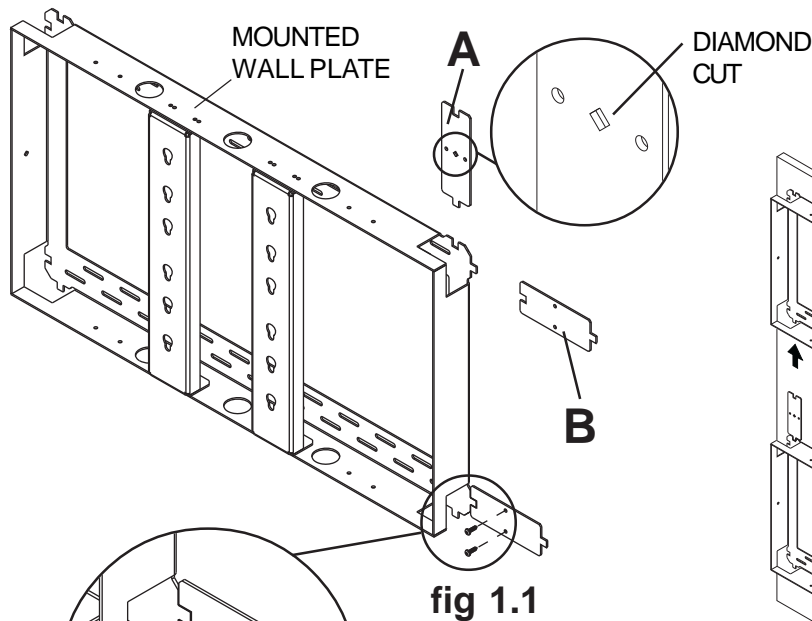

fig 1.1
- Slide spacers (**A** and **B**) into tab of mounted wall plate as shown in figure 1.1. Keeping spacers (**A** and **B**) flush up against wall plate fasten with two #10 x 3/4" wood screws (**C**) as shown in detail 1. There must be two spacers on the side the additional wall plate will be placed. Align the tabs of the additional wall plate flush with the spacers. Follow main instruction for proper installation of additional wall plates.
**NOTE:** Refer to main product instruction for wall plate installation. Vertical spacer (A) is identified by diamond cut.
- Slide spacers (A and B) into tab of mounted wall plate as shown in figure 1.1. Keeping spacers (A and B) flush up against wall plate fasten with two #10 x 3/4" wood screws (C) as shown in detail 1. There must be two spacers on the side the additional wall plate will be placed. Align the tabs of the additional wall plate flush with the spacers. Follow main instruction for proper installation of additional wall plates.